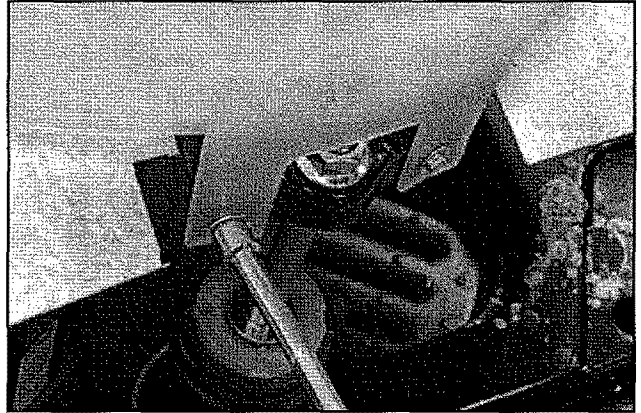

FIGURE 17
18. Remove the six (6) tub screws. See *Figure 17*.